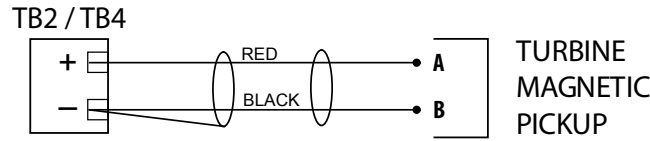

Figure 3.9—Flowmeter input wiring
5. Connect the flowmeter input wiring to terminal block TB2 or TB4, if appropriate. See Figure 3.9, page 56.
Turbine Inputs 1 and 2 (Terminal blocks 2 and 4) provide the turbine flowmeter input signal generated by a magnetic pickup, enabling the Scanner 2200 to calculate and display instantaneous flow rates and accumulated totals. Wire as shown in Figure 3.9.